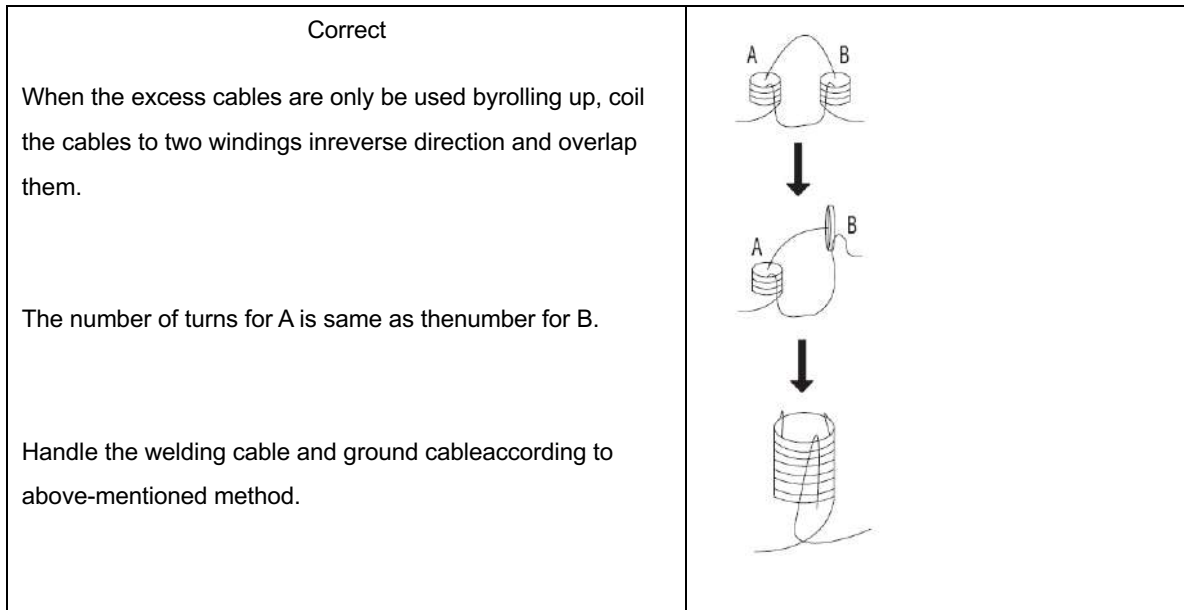

Fig. 3-4-1: Welding cables instruction
- If extended cable is used, please do as shown in Fig. 3-4-1.